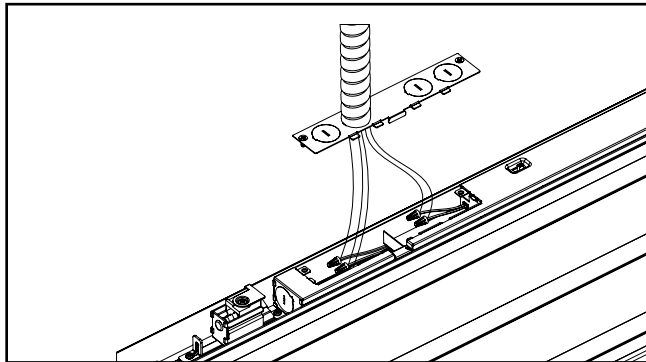

Figure 14.
9. Connect the wires from flex conduit to J-box: green to green (ground), white to white (neutral), black to black (hot), Pink and violet wires are provided to connect to a 0-10V dimmer. See Fig.14